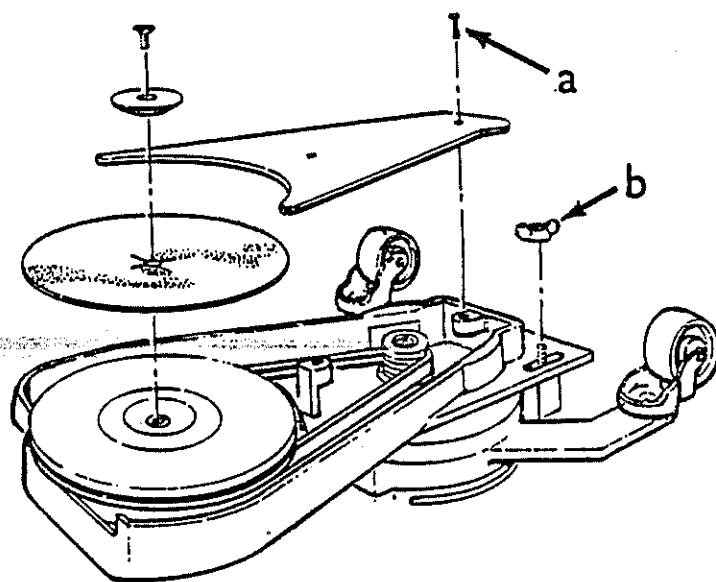

Figure 1
1. Remove beltguard (figure 1-a) position extension over motor and start thumb screws (figure 1-b).